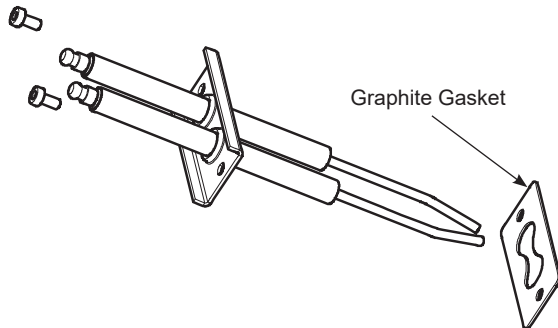

Figure 30: Ignition Electrode Assembly
- Install igniter as shown in Figure 30.